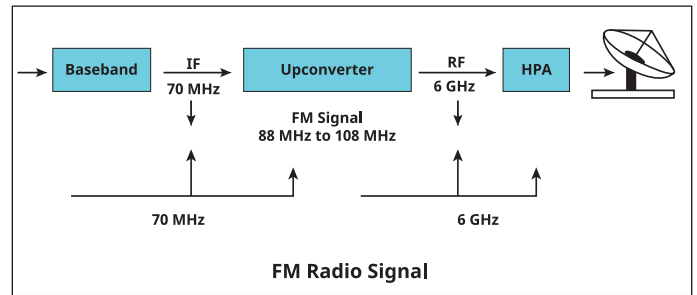

Figure 12. FM Signal Upconverter to Satellite Band
If more than one signal is transmitted by a power amplifier (or by multiple transmitters), a mixing or intermodulation (IM) process can result. These IM signals are present in the RF environment at multiples of one signal mixing with another signal at different frequencies. The power level of these intermodulation products are dependent on the relative power level of each signal. Terrestrial FM broadcast can be introduced at the IF level of the satellite earth station. In this instance, 90 MHz is mixed with 6 GHz RF frequency to produce interference at 6.09 GHz. Figures 12 and 13 illustrate the interference problem.